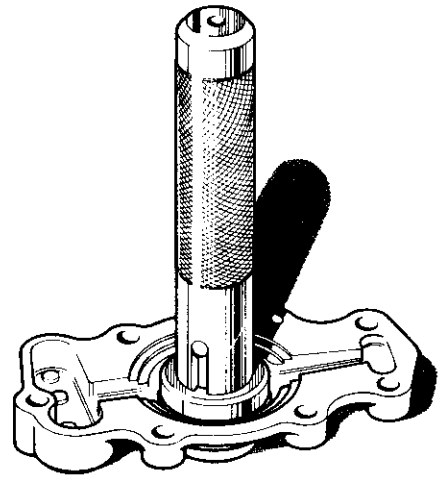

Figure 3 Replacing front cover oil seal
- Check front cover oil seal and replace if necessary using tool No. RT 7488 (Figure 3).